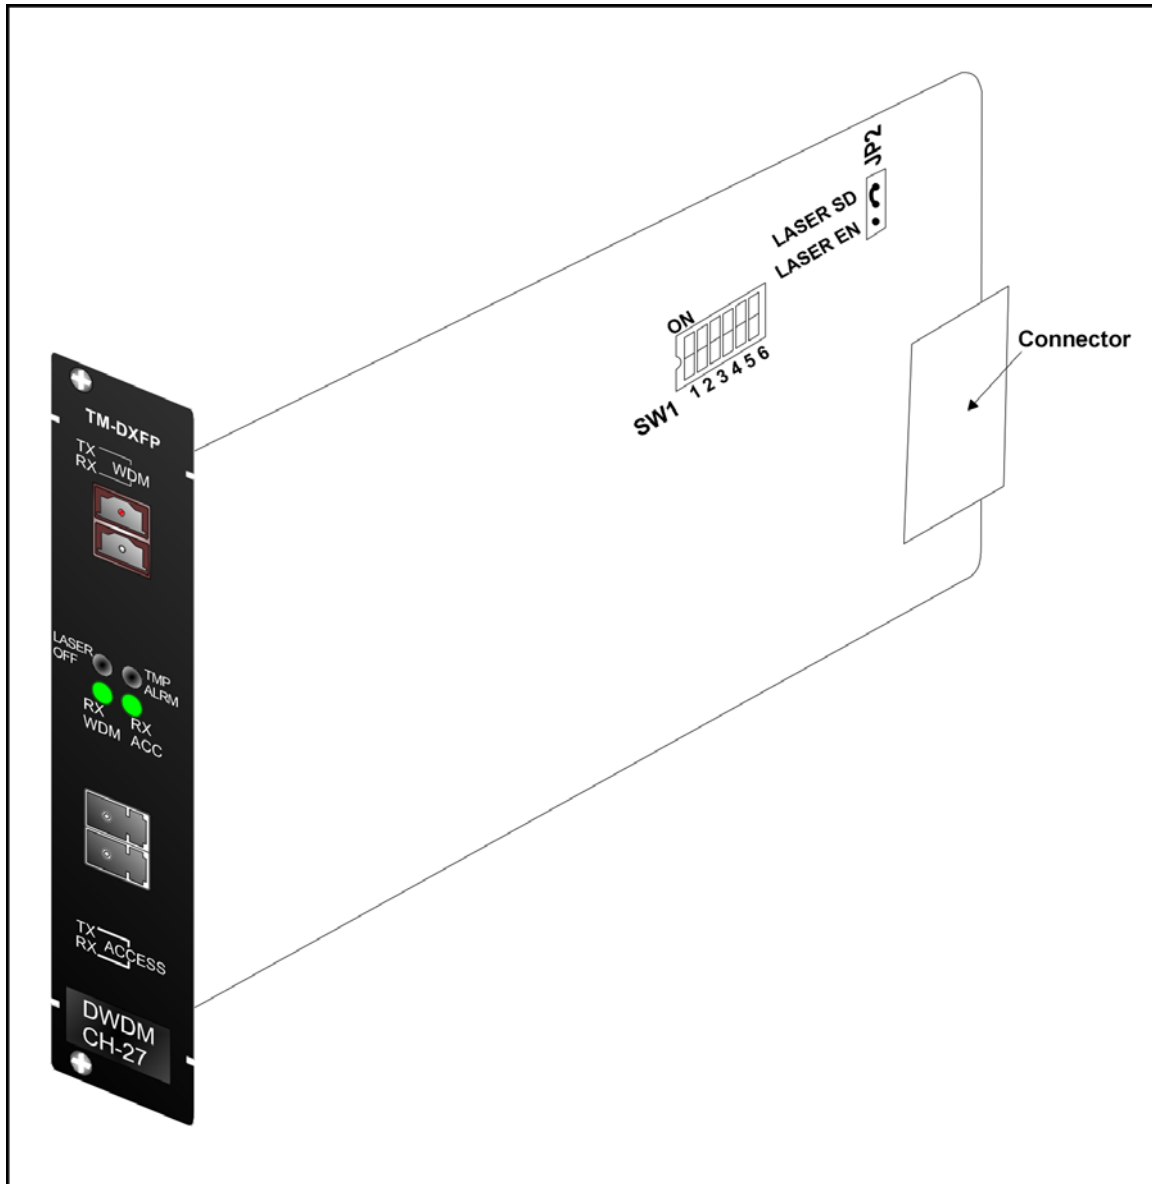

Figure 41: DIP Switch Location on TM-DXFP Transponder Module
1. With the aid of *Figure 41*, locate Jumper **JP6** on the TM-DXFP Transponder module and position it using *Table 14*.
2. With the aid of *Figure 41*, locate DIP switch **SW1** on the TM-DXFP Transponder module. and set it using *Table 15*.